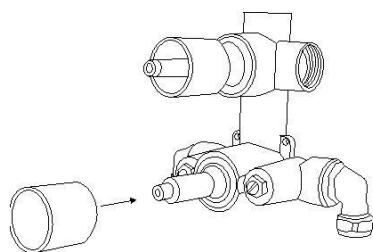

Fig 4
7. Screw the two chrome cover sleeves onto the control shafts (See Fig 4).